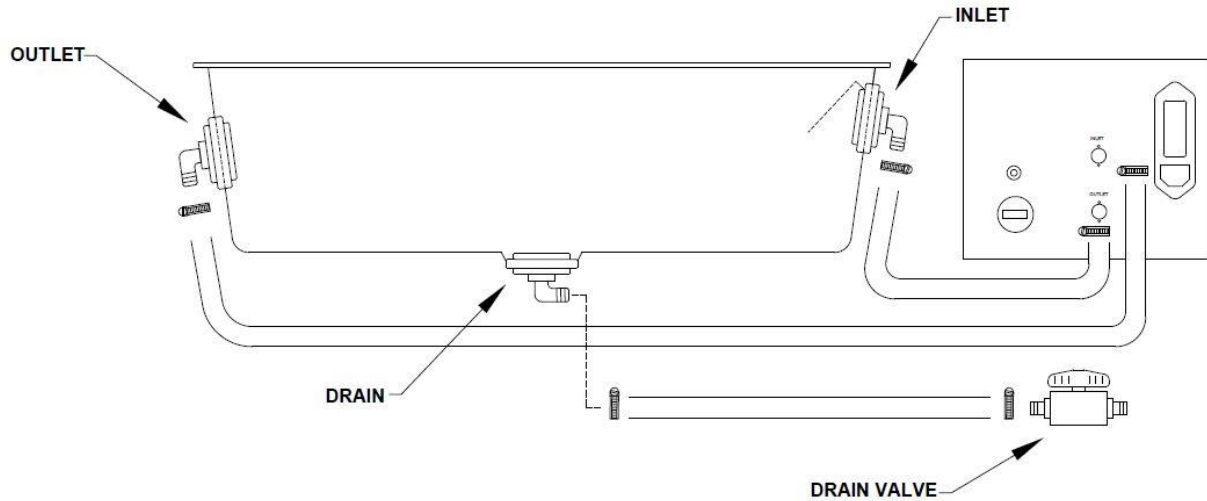

FIGURE 3
4.3 Liquid Connections – Dual Bath System (FIGURE 3)